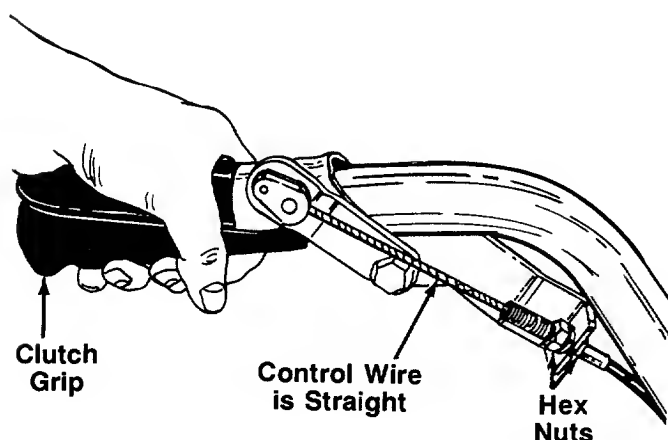

FIGURE 11.
- d. With the clutch lever released (in the "up" position), adjust the bottom nut at the cable bracket so there is only a slight amount of slack in the control wire. Tighten the upper nut against the bracket. Squeeze the clutch lever against the handle. The control wire should now be straight. See figure 11.